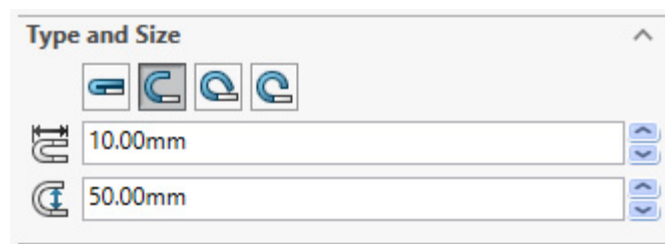

Figure 3.16: Hem Types; left to right: Closed, Open, Tear Drop, Rolled
5. Next, the type of **Hem** can be set. There are four options, as illustrated *Figure 3.16* and as usual, the icon shows a simple graphical representation of what these options do: